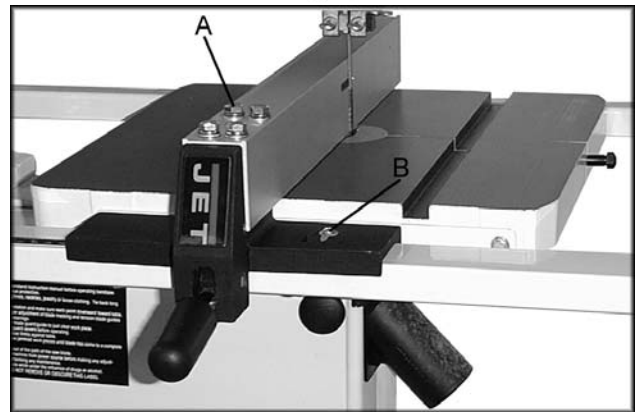

Fig. 7
11. Position the fence along the blade and tighten the handle. To make an adjustment loosen four hex cap bolts (A, Fig. 7) and align the fence with the blade. Tighten bolts.
12. Check to see that the pointer (B, Fig. 7) is aligned with the zero marking on the guide rail. If adjustment is necessary loosen the screw that holds the pointer in place. Adjust as necessary.